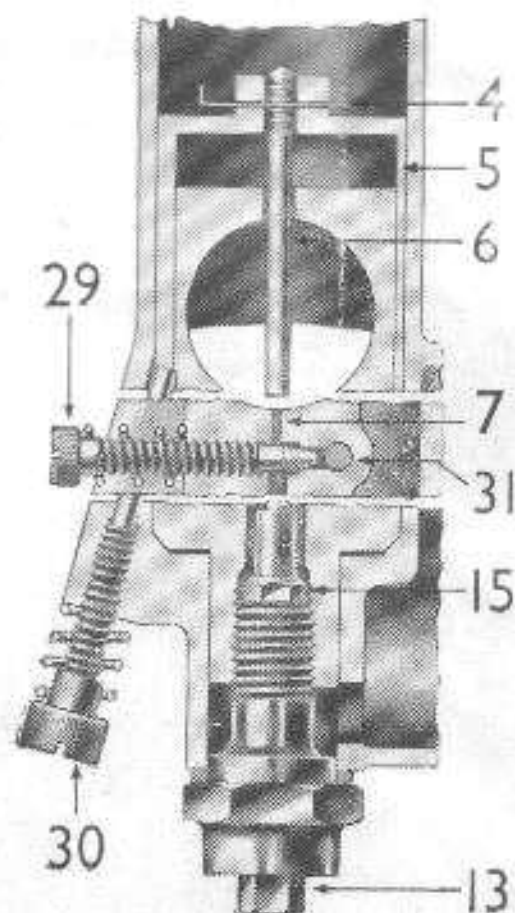

Fig. 4.
(a) This fig. 4 is three diagrammatic sections of the carburetter to show the throttle adjusting screw (30), and the pilot air adjusting screw (29).
The taper needle position in relation to the throttle opening can be set according to the mixture required by fixing it to the throttle valve with the jet needle clip in a certain groove (see figure 4 above), thus either raising or lowering it. Raising the needle richens the mixture and lowering it weakens the mixture at throttle openings from quarter to three-quarters open (see figure 5, page 7). The needles are marked with the letters B, C, or D. B type are fitted in the 375 Carburetter, C type in the 376 Carburetter, and D type in the 389 Carburetter. The needles in some cases are marked with a number in addition to a letter.